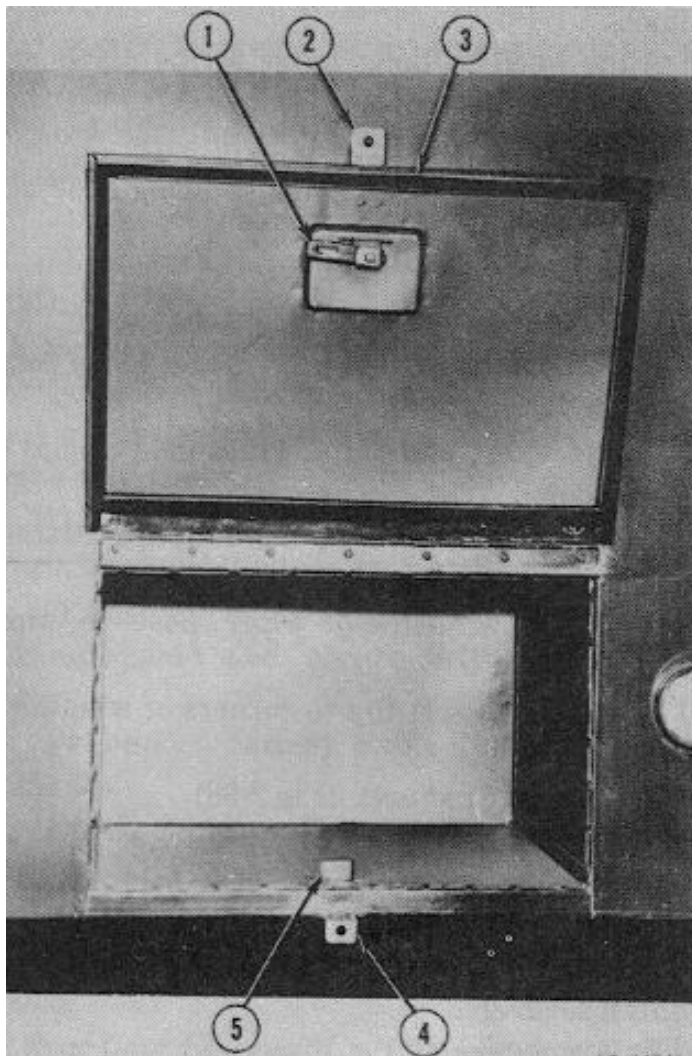
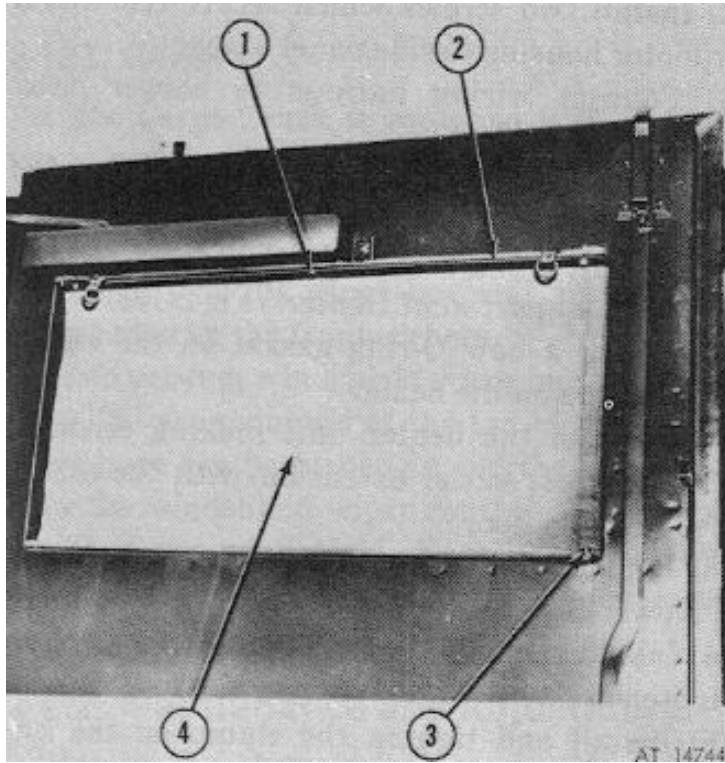

Figure 2-102. Outside stowage compartment.
FIGURE 2-103. Rear door blackout curtain.
L Outside Stowage Compartment Handle. (Fig 2-102)
- (1) Loosen the set screw on the U-shaped latch and remove from the square shaft.
- (2) Remove the handle from the front of the door.
j. Rear Door Blackout Curtain (Ambulance). (Fig 2-103)
- (1) Unfasten the two straps that hold the curtain in the rolled up position, lowering the curtain.
- (2) Remove four screws holding the curtain retainer strip in place. Remove curtain.
- (1) Position heater switch, thermostat and circuit breakers in control panel and install attaching screws and washers.
- (2) Connect wiring harness cable connectors to switch, thermostat and circuit breakers.
- (3) Position control panel to ambulance body bulkhead panel and secure with eight attaching screws.
- (4) Connect battery cable to battery negative terminal.
i. Outside Stowage Compartment Handle. (Fig 2-102)
- (1) Install handle onto square shaft.
- (2) Install set screw on the U-shaped latch and tighten.
- (1) Position curtain on rear door.
- (2) Install retaining strip and secure with screws.
- (3) Roll curtain up and fasten with two retaining straps.